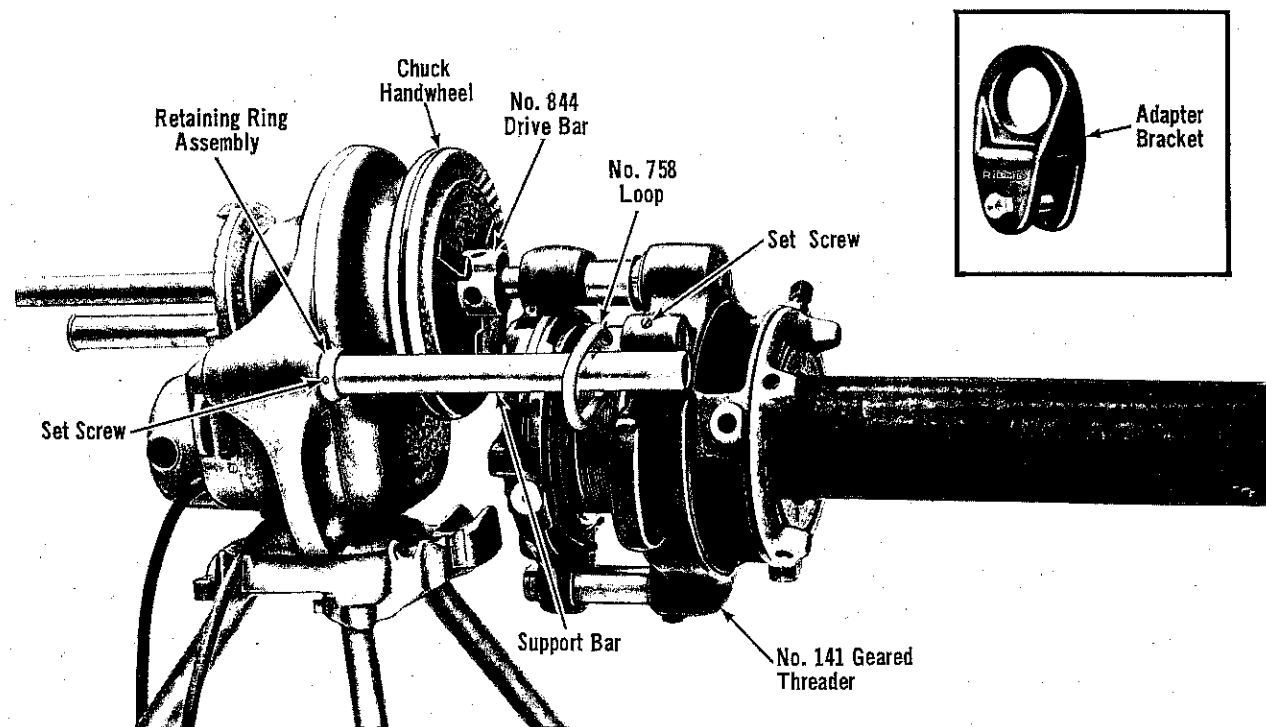

Figure 15. No. 141 Geared Threader Close-Coupled to Power Drive (No. 4PJ Threader Similar).
3. Two men pick up Threader and insert Drive Bar into chuck of Power Drive (Figs. 15 and 16). Tighten Power Drive Chuck Jaws into three "V" shaped grooves in head of Drive Bar.
5. **4PJ and 141 Threaders (Fig. 15)** - Pull out Support Bar on switch side and secure Collar against Power Drive Body with Set Screw.
6. **4PJ and 141 Threaders (Fig. 15)** - Slip No. 758 Loop over Support Bar and secure to Gear Case loop with Set Screw.
Note: Use No. E-3675 Adapter Bracket (Fig. 15), in place of No. 758 Loop, on all 4P and 4PJ Threaders without loop hole on Gear Case.